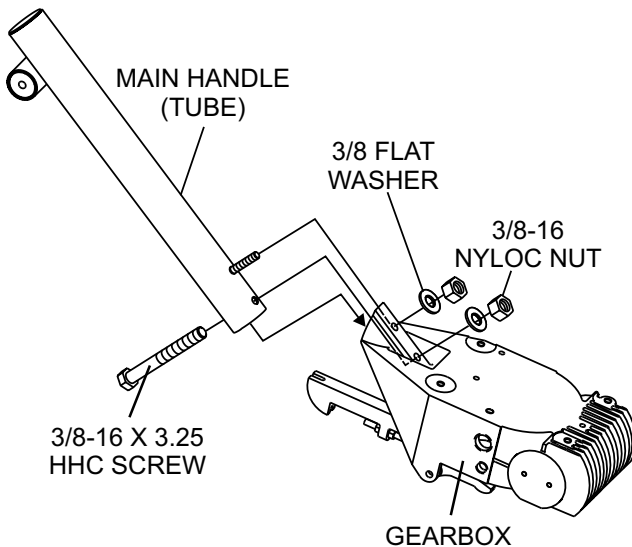

Figure 4. Handle Tube Installation
13. Attach the main handle (tube) to the gearbox as shown in (Figure 4). The mounting hardware should be contained in the shipping container.